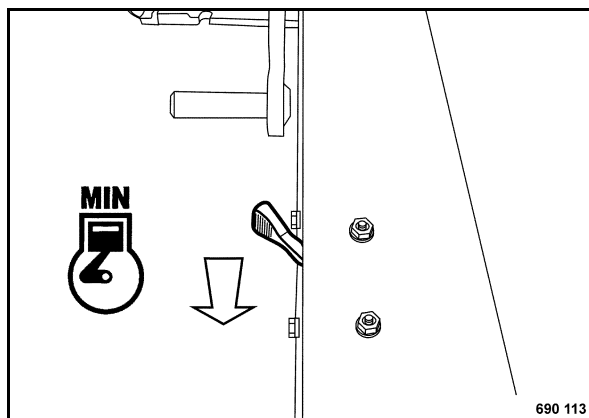

Fig. 16
- Set the throttle lever (Fig. 16) to position "MIN" (idle speed).